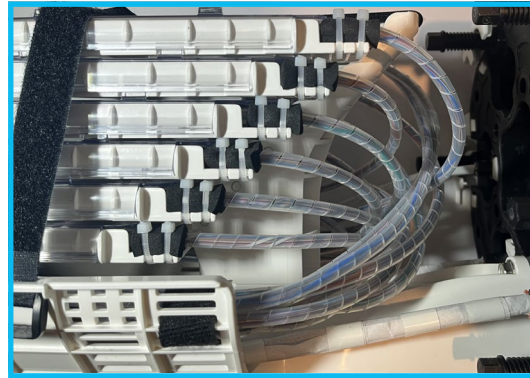

Figure 9.8
8. Continue the same process for each unit binder group in the cable. Each binder group is routed to a separate splice tray. 432f cable will require 6 splice trays [figure 9.8].